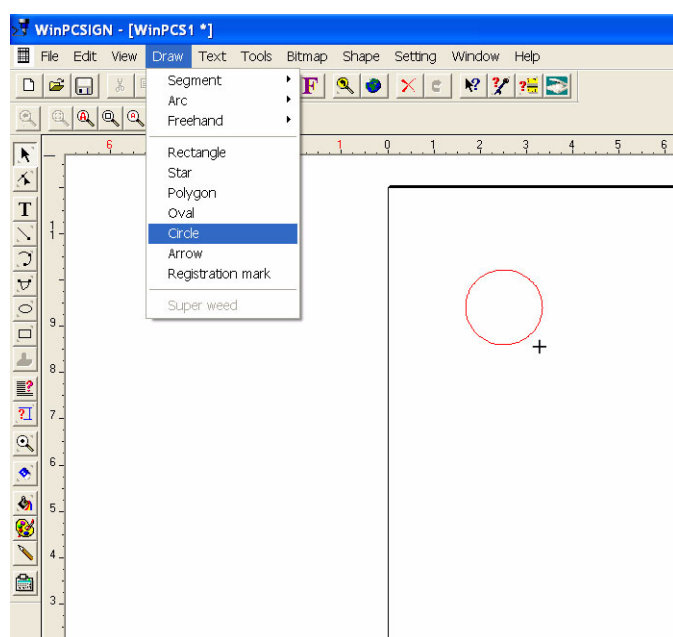

Figure 25
- 6 Hold down the mouse and drag the cursor to draw a circle about the size of a quarter. Your screen should look similar to figure 25